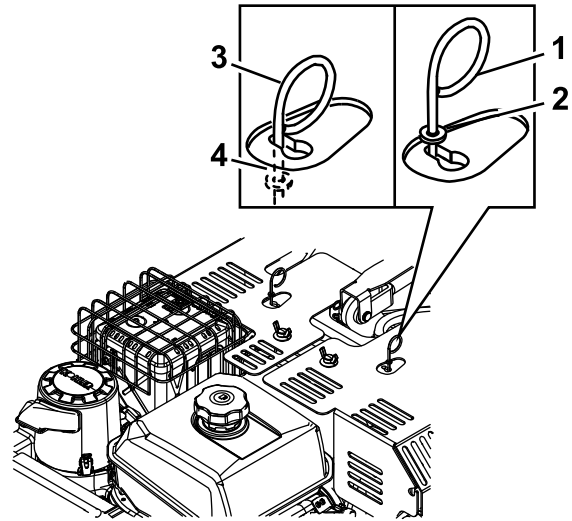

Figure 28
- Move the lever to the larger opening of the slot (Figure 28).
- Push the lever downward until the washer is inside of the frame (Figure 28).
- Move the lever to the narrow portion of the slot, and release the lever (Figure 28).
- Move the release-valve lever to the larger opening of the slot (Figure 28).
3. Pull the lever upward until the washer is outside of the frame (Figure 28).
4. Move the release-valve lever back to the narrow portion of the slot, and release the lever (Figure 28).